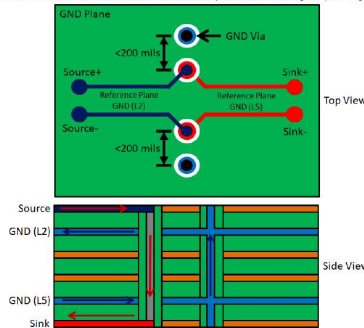

Figure 2-3. Differential Pair Via Return Path With GND Vias
- Be careful with the return current when changing the layers. Use ground vias around the signal via to make sure that the return current can flow as close as possible to the signal (see Figure 2-3)